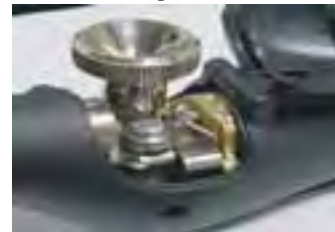

Figure 2
2. Align the Drive Roll Removal Tool (P/N 931-0100) over the flats of the drive roll (as shown in Figure 2). Hold the gun with one hand or on a table top, with the other hand give the Removal Tool a quick snap-turn in the **CLOCKWISE DIRECTION**.